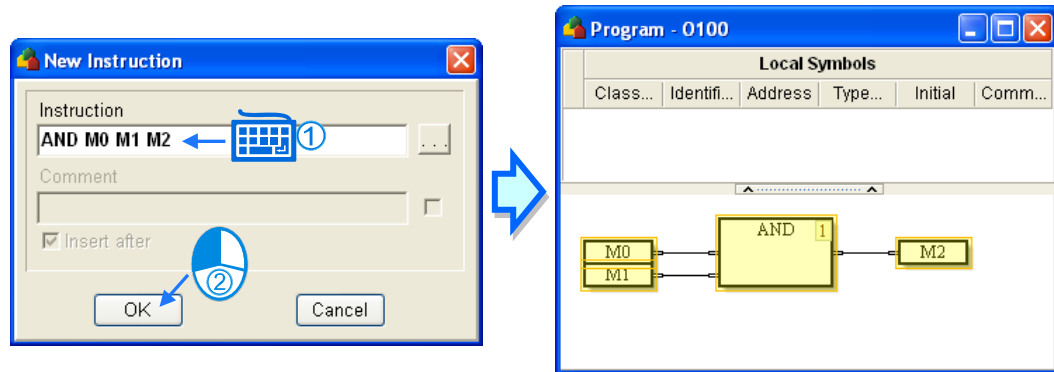

Figure 12-12 Inserting an object
- (1) When the users type an instruction, the **New Instruction** window appears. After the users type an instruction in the **Instruction** box, they have to press Enter on the keyboard, or click **OK** in the **New Instruction** window. If the users move the mouse cursor and click a position in the program editing area, the instruction will be inserted. (The instructions that the users type is case-insensitive. If the users type an incorrect applied instruction, or an incorrect device name, an error message will appear after they click **OK**.) Please see figure 12-12.